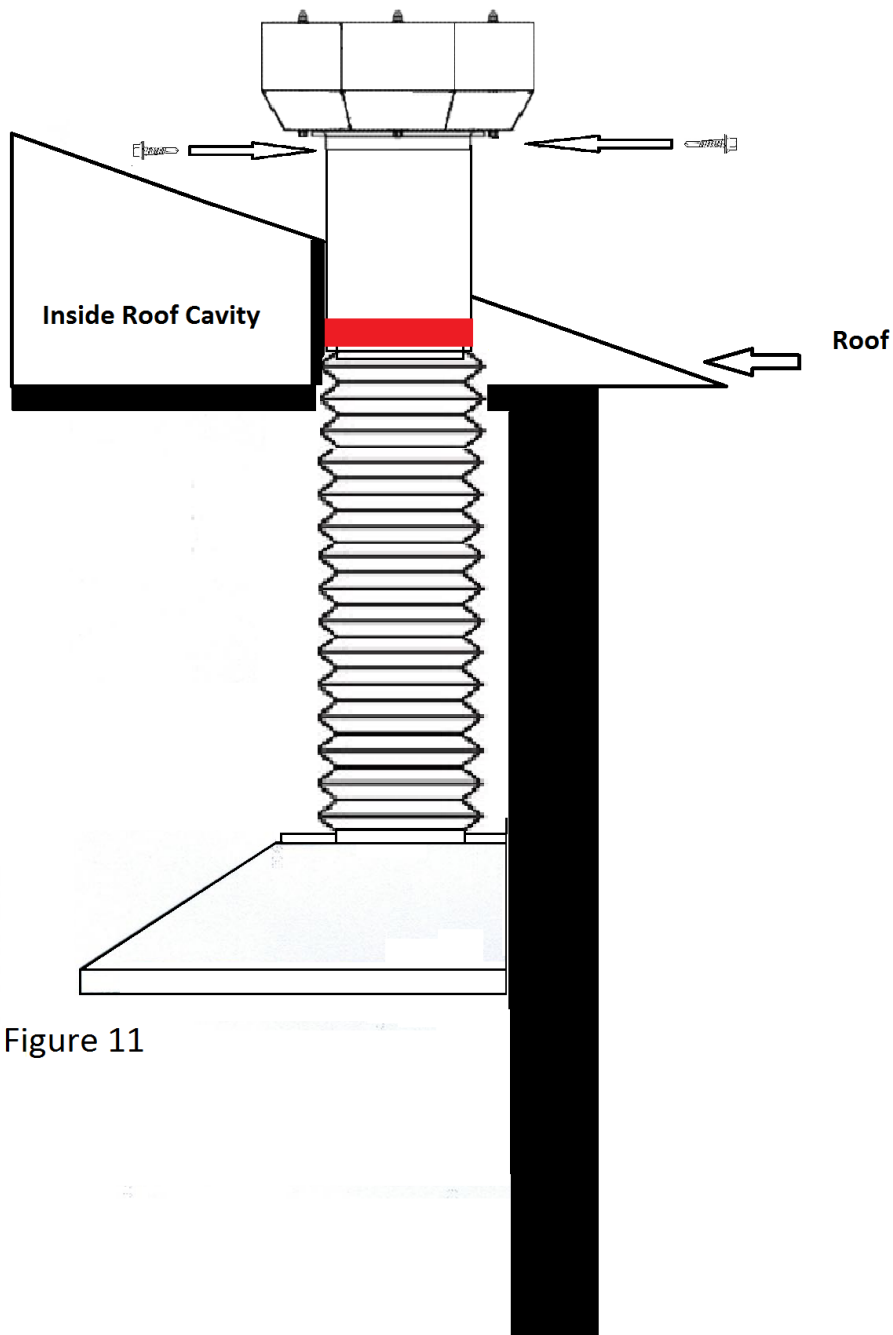

Figure 11
Step 12: install the motor to the ducting. Slid the flange of the motor to the outside of the ducting and level the unit. Once level screw to the ducting. See figure 11